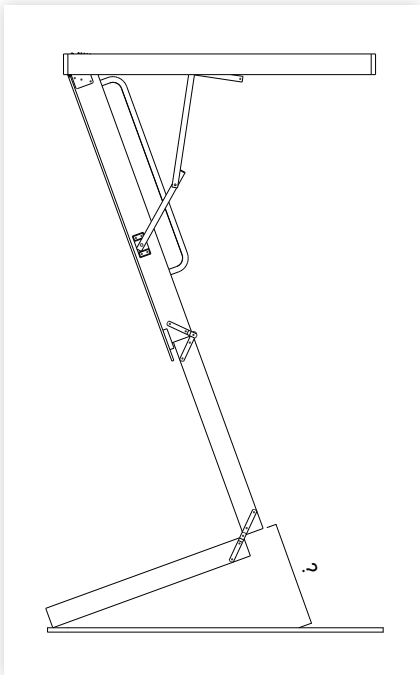

figure 11
1. With the top and middle sections of the ladder open and the bottom section tucked in behind, measure the distance from the bottom of the middle section, to the floor at the same angle as the ladder (figure 11). Do this on both sides.
2. Once you have determined the length of 'x' (figure 11) transfer these measurements to the front of each side of the bottom section of the ladder. Mark the cut off back from these points at the same angle as the treads.